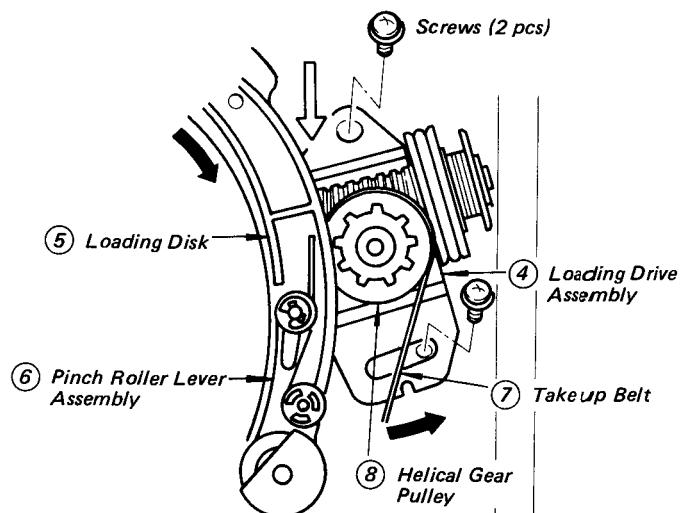
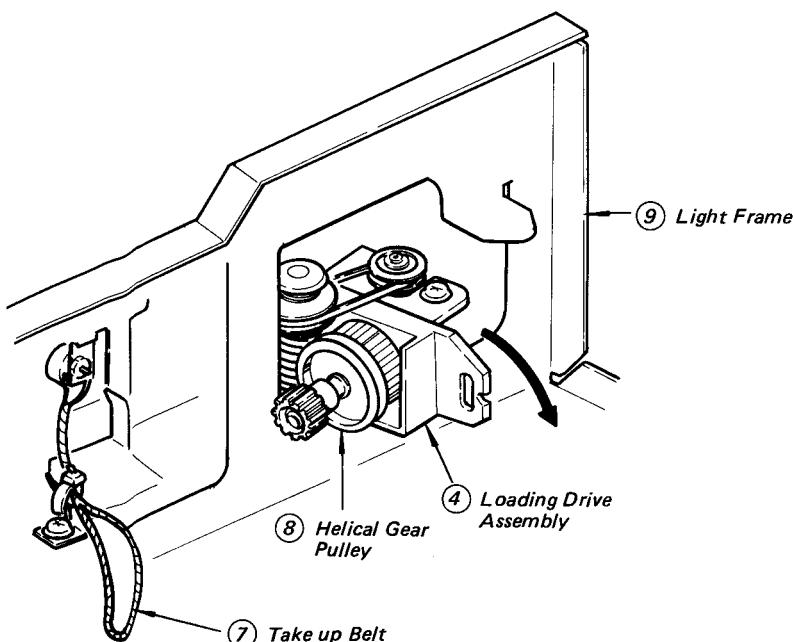

Fig. 5-24 Loading Disk Turning
Fig. 5-25 Loading Drive Assembly Removal
4. Remove the two screws holding the loading drive assembly ④. (Refer to Fig. 5-24)
5. Take out the loading drive assembly ④ away from the loading disk ⑤ (see Fig. 5-24).
6. By holding manual drive post on the loading disk ⑤, turn the position where there is no cam way on the outside of the loading disk ⑤, or in the vicinity of the pinch roller lever assembly ⑥, so as to be over the loading drive assembly (see Fig. 5-24).
7. Remove the take up belt ⑦ by sliding it off the pulley on the helical gear pulley ⑧. Care should be taken not to apply any grease or oil to the surface of the belt.
8. Take out the loading drive assembly ④ from the window of the right-hand frame ⑨ (see Fig. 5-25).
9. Remove the loading motor assembly ② from the loading drive assembly ④.
10. Replace the loading drive assembly ④ by reversing Steps 1 through 9. The loading drive assembly ④ may be replaced together with the loading motor assembly ②.